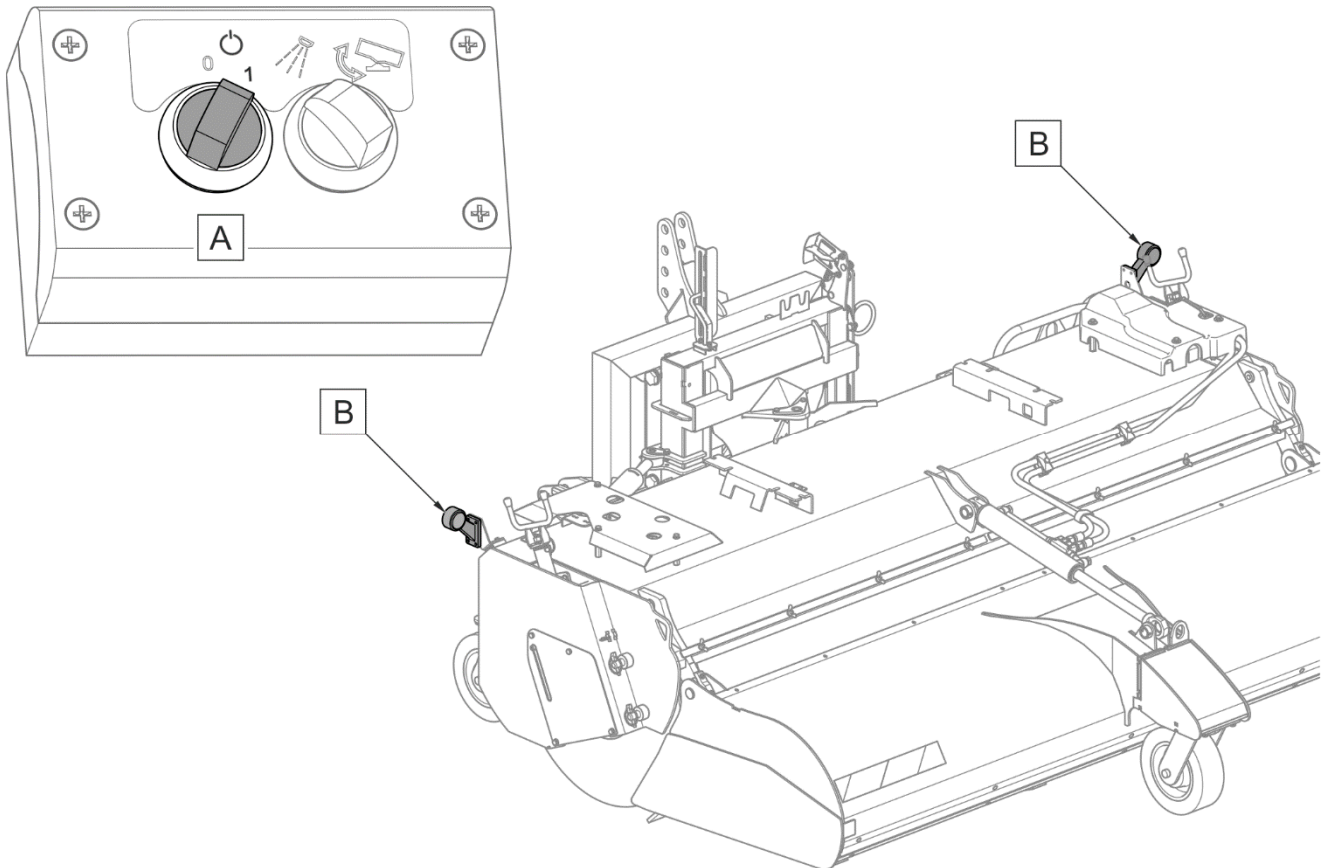

FIGURE 4.20 Clearance lights of the machine
- While driving on public roads, turn on the sweeper's clearance lamps (FIGURE 4.20).
The sweeper's clearance lights do not turn on together with the carrying vehicle's lights. In order to turn on the sweeper's clearance lights (FIGURE 4.20), turn the main switch (A) to "1" position (ON).